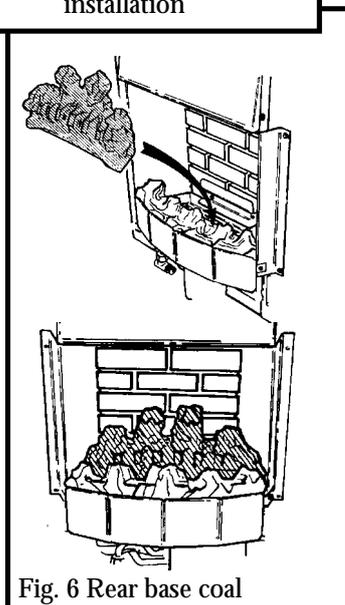

Fig. 6 Rear base coal
**3** Place the rear base coal in the burner compartment behind the front coal. It should rest on the ledge at the back of the burner compartment and its rear face should touch the rear ceramic wall (See figure 6)